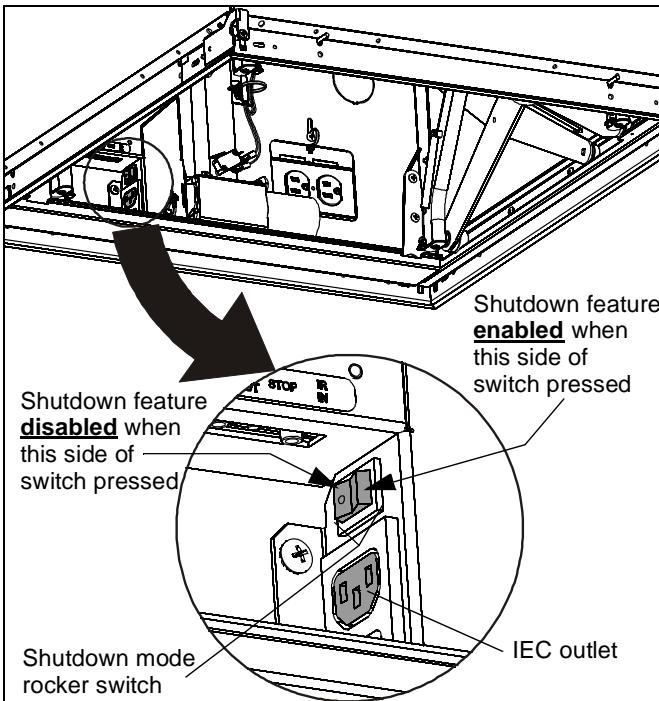

Figure 26
By default, this feature is disabled. To enable or disable this feature, use the rocker switch directly above the IEC outlet. To **enable** depress the blank side of rocker switch. To **disable** depress the white dot side of rocker switch. The projector MUST be plugged into the IEC outlet in order for this feature to function. (See Figure 26)
**NOTE:** Projector MUST be plugged into the IEC outlet located within the lift. (See Figure 26)
2. Make sure Projector Shutdown Mode is disabled. (See Figure 26)